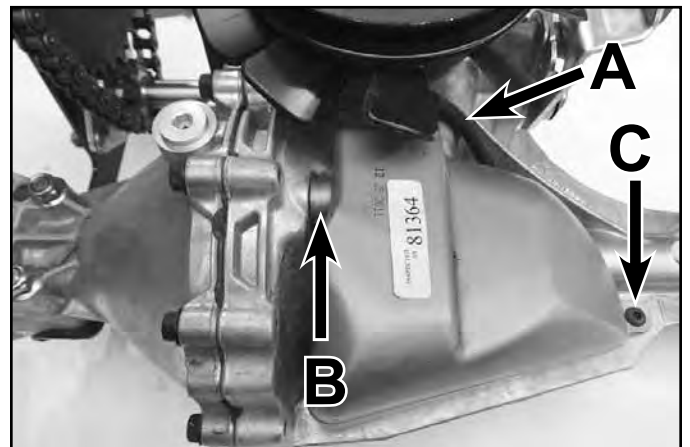

Fig. 107
6. Install the previously removed expansion tank by first inserting the hose into the tank (A). Place the tank opening over the O-ring and push down to ensure a proper seal (B). Install the #10-32 x 1/2" self-tapping screw and torque it to 25 in-lbs (2.8 Nm) (C) (Fig. 107).